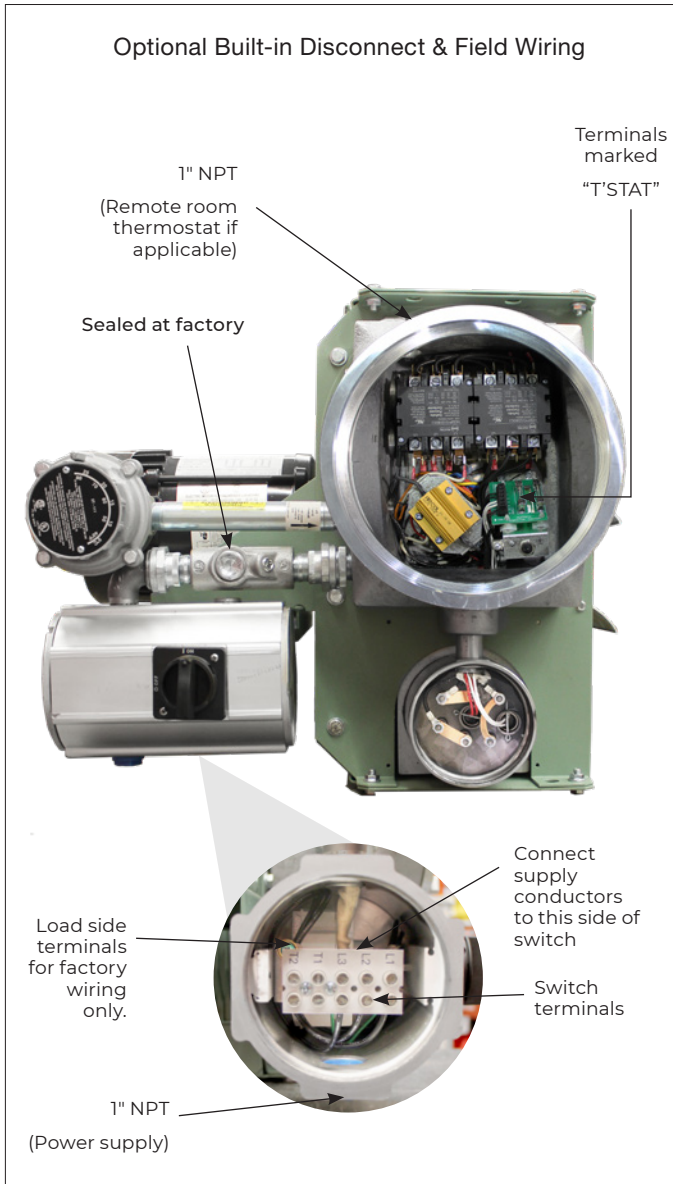

Figure 8
- 2.2 Heater may be supplied with a factory installed built-in room thermostat (see Figure 8, page 10). On heaters not supplied with this option, it is recommended that a remote room thermostat be used. Connect the remote room thermostat conductors to the printed circuit board terminal block marked "TSTAT". Any thermostat used with this heater must:
- 2.3 Heater may be supplied with a factory installed built-in integral disconnect. (See Figure 8, page 10)
- Power Supply conductors and Ground conductor pass through 1" NPT opening of Disconnect Enclosure (see Figure 8, page 10). Supply conductors to be wired to Disconnect Switch inside. Ground conductor to be wired to Ground Lug fastened to inside of Disconnect Enclosure.
- If applicable, Remote Room Thermostat conductors pass through 1" NPT opening (see Figure 8, page 10) and are to be wired to printed circuit board terminals marked "T'STAT".